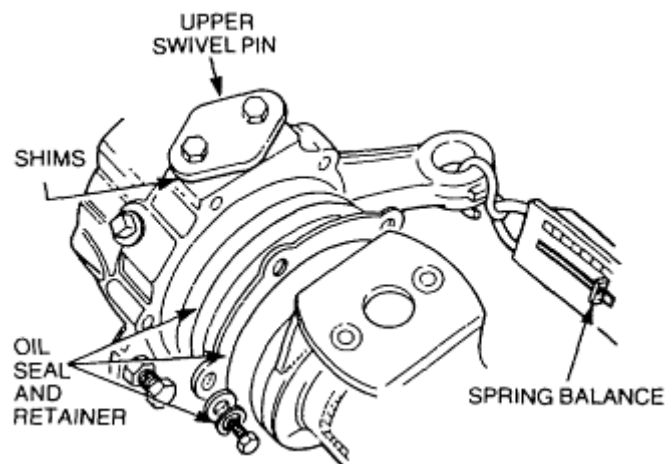

Figure 103 Measuring the Rotating Resistance
- n. Measure the resistance to rotation after the initial movement (Figure 103).
- u. Install the six bolts and new lock-washers (Figure 103).